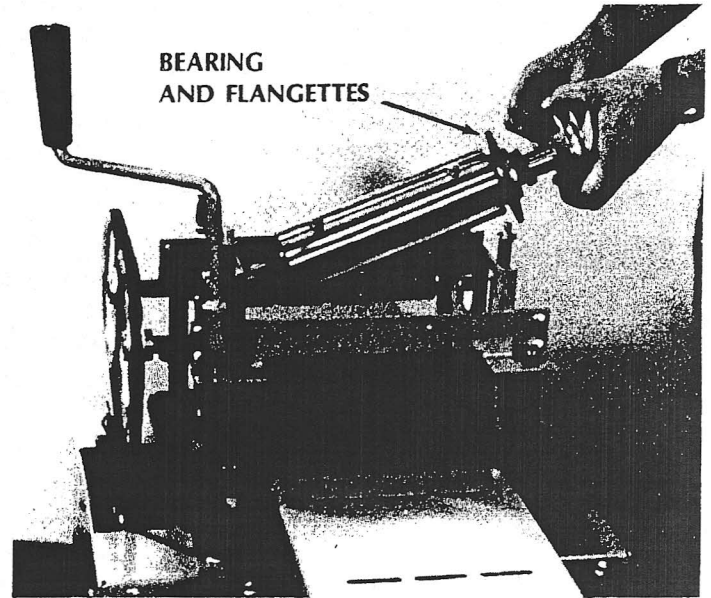

Fig. 15
6. Lift motor drive end of cutterhead with bearing and flangettes out of planer side. Remove reduction drive belt and slide cutterhead through bearing and flangettes on reduction drive side. (CAUTION: KNIVES ARE SHARP) (fig. 15)